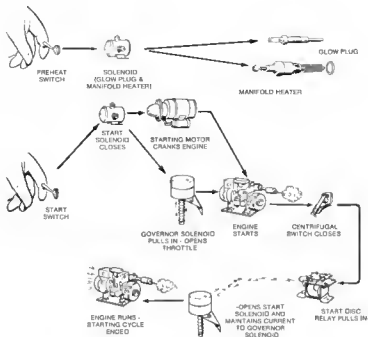

FIGURE 3-61. DIESEL STARTING SEQUENCE
- 4 Using a feeler gauge, check the clearance between the rocker arm and valve (see Figure 3-61). Increase or reduce the clearance until the proper gap is established. See table in Figure 3-60 for valve clearances.
(Figure 3-61)